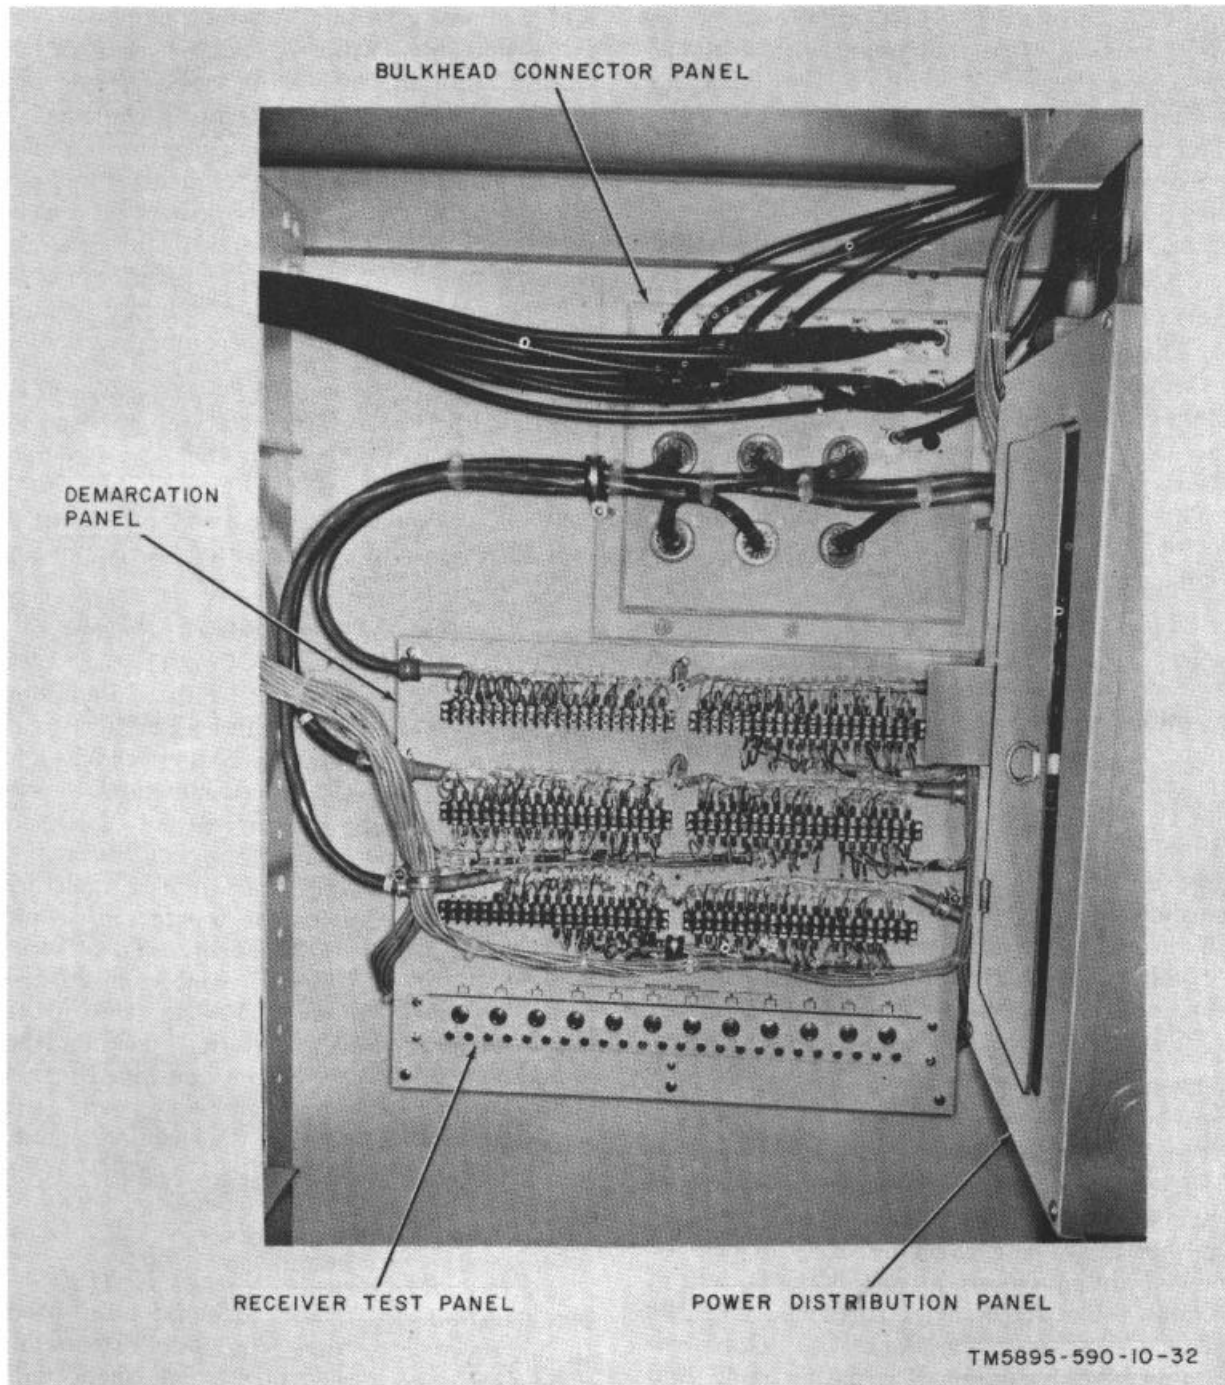

Figure 1-26. Shelter demarcation panel, bulkhead connector panel, and receiver test panel.
k. Receiver Test Panel FA-3700/3 (fig. 1-26 and 3-18). The receiver test panel consists of a front panel which contains one row of 12 phone jacks and a second row of 24 test jacks. A combination of 1 phone jack and 2 test jacks provides monitoring facilities for each of 12 audio receiving channels. All wiring is at the rear of the receiver test panel. Four mounting slots are located on the front panel. The receiver test panel is physically located at a cutout in the shelter demarcation panel (fig. 1-26).